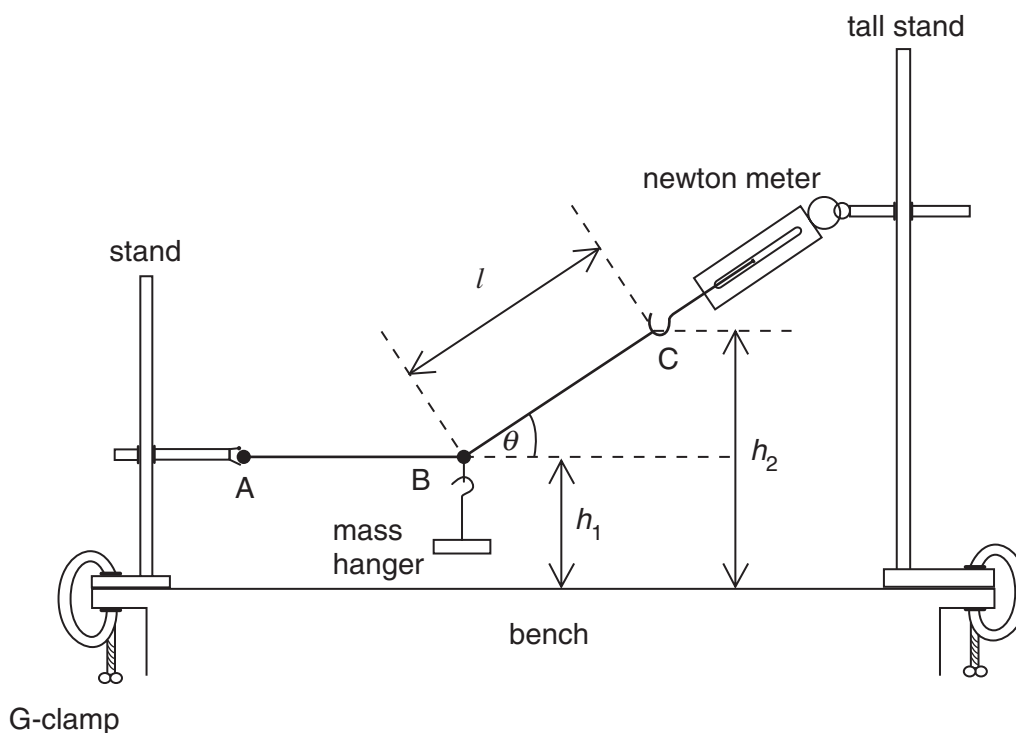

Fig. 1.1
- (ii) The apparatus should be set up as shown in Fig.1.1 with the mass hanger tied to the string at B. The base of the mass hanger should be just above the bench surface.